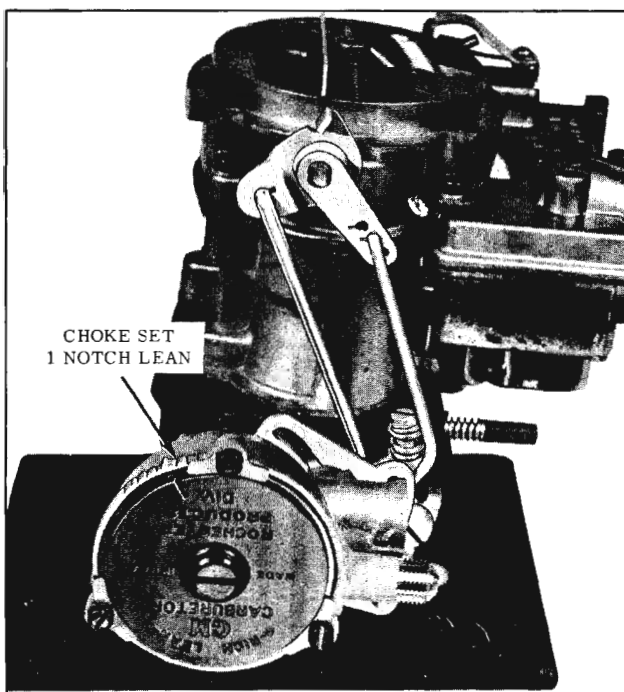

Fig. 9-46 Choke Coil Setting
3. Rotate the choke cover counterclockwise until the coil picks up the choke shaft tang, and the mark on the choke cover is one notch lean. (Fig. 9-46)